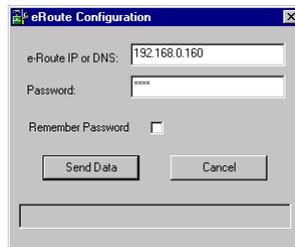

Figure 24. e-Route Configuration Send Log On Window
8. Open the **File** menu and select **Send to e-Route** to display the log on window shown in Figure 24.